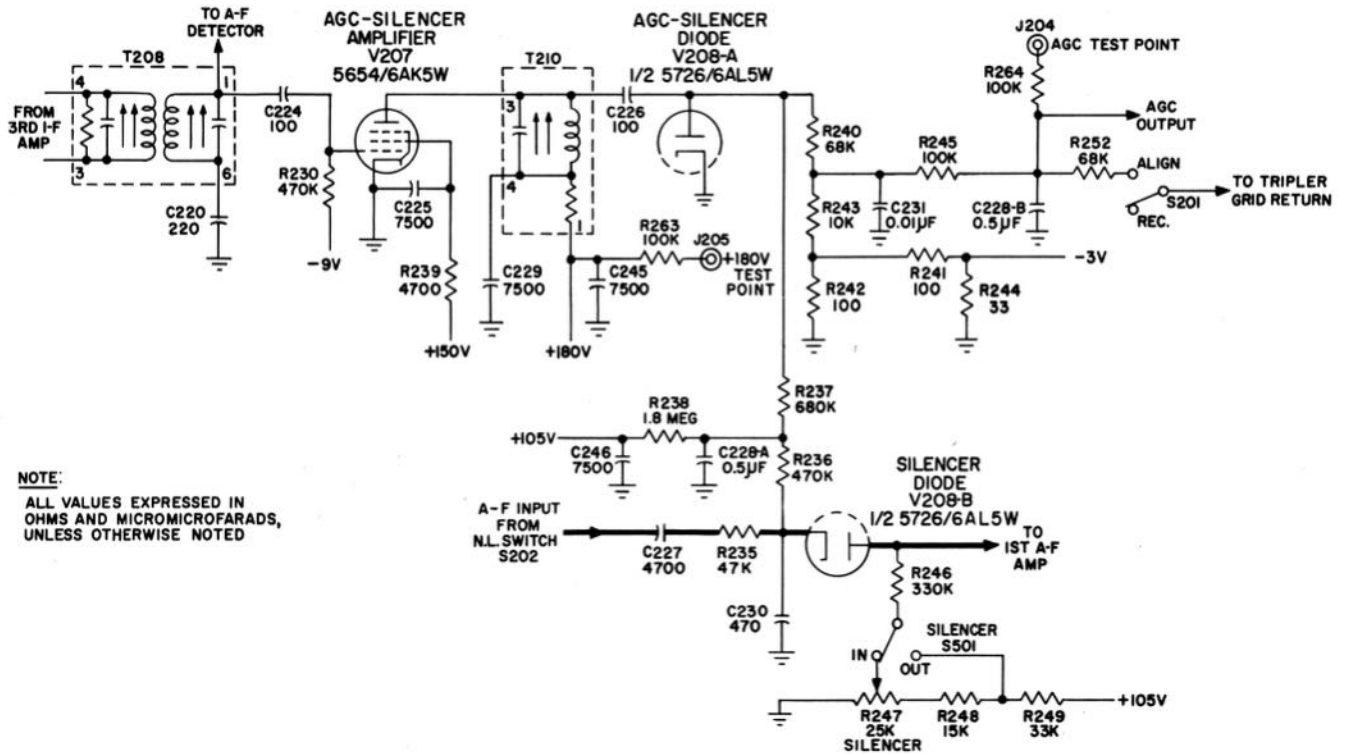

Figure 2-9. AGC and Silencer Circuits, Simplified Schematic Diagram
e. AGC-SILENCER AMPLIFIER. — The AGC-silencer amplifier, shown in figure 2-9, amplifies the output from the i-f amplifiers to a level which is suitable for use in the AGC and silencer circuits. The i-f signal from terminal 1 of transformer T208 is coupled through capacitor C224 to the control grid of V207, a 5654/6AK5W pentode amplifier. The grid is biased from the -9 volt source in the power supply through resistor R230. The screen grid is supplied from the +150 volt source in the power supply, and is decoupled from the power supply by resistor R239 and capacitor C225. Plate voltage is supplied from the +180 volt source through transformer T210. Transformer T210 comprises a parallel-resonant circuit at the second intermediate frequency, 1.775 mc, and serves as the plate load for tube V207. The amplified signal from this stage is coupled through capacitor C226 to AGC-silencer diode V208A.
f. AGC-SILENCER DIODE.—The AGC-silencer diode, V208A, is a shunt rectifier which provides the required d-c voltages for the AGC and silencer circuits. As shown in figure 2-9, one half of a 5726/6AL5W twin diode serves this purpose. When switch S201 is in the REC. position, the diode load consists of resistors R240 and R243 in series with the series-parallel network of resistors R242, R241, and R244. The junction of resistors R241 and R244 is connected to the -3 volt bias source, so the plate of V208A is biased at approximately -1.8 volts. When the peak value of the 1.775 mc signal, coupled to the diode plate from V207, exceeds this delay bias, the diode conducts to develop a negative rectified voltage across the load resistors. The voltage which is obtained at the junction of resistors R240 and R243 is the AGC voltage; this voltage is bypassed for radio frequencies by capacitor C231 and is fed to the AGC line through a low-pass filter, R245 and C228B, which removes the audio frequency components from the voltage. AGC voltage is applied to the first and second r-f amplifiers, first and second i-f amplifiers, and the first a-f amplifier. Resistance-capacitance decoupling networks are connected in the grid circuits of all the controlled r-f and i-f amplifiers. Regardless of whether or not AGC voltage is developed from a re-
V208B, connected between N.L. switch S202 and the first a-f amplifier, V209A, permits the audio signal to pass during conduction and cuts off the audio signal when it is not conducting. Diode V208B is one half of a type 5726/6AL5W dual diode; see figure 2-9. The silencer may be connected into, or cut out of, the receiver circuit by means of SILENCER switch S501. SILENCER potentiometer R247 is used to adjust the silencing threshold.